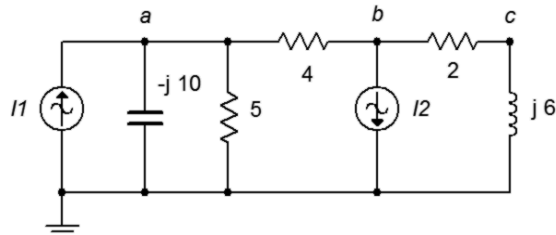

Figure 5.10
19. Use Superposition in the circuit of Figure 5.10 to find the currents through the inductor and capacitor.
20. Use Superposition in the circuit of Figure 5.10 to find v_{ab} and v_{bc} . $I_1 = 1\angle 0^\circ$ and $I_2 = 2\angle 90^\circ$.